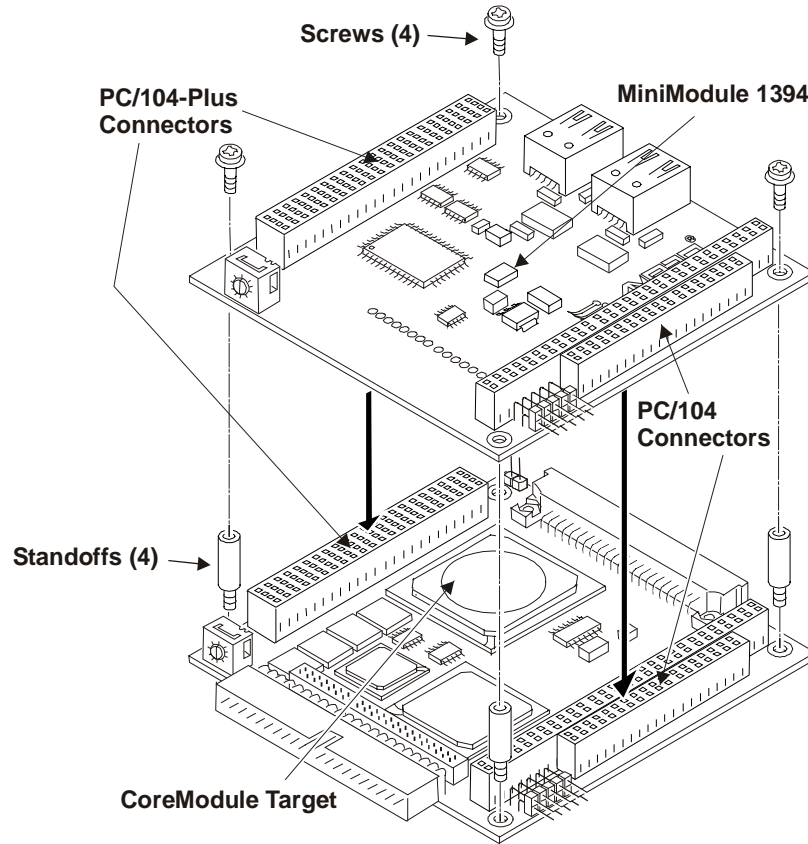

Figure 2-4. Installing MiniModule 1394 on CoreModule Target
13) Install the spacers on the target board	<ul style="list-style-type: none"> Install the threaded spacers onto the target board at the four corners of the MiniModule 1394. See Figures 2-4 and 2-5.